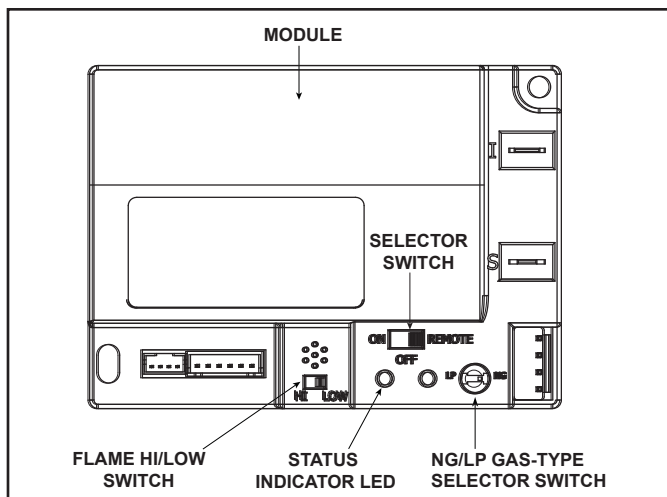

Figure 3.7 Control Module
1. The control module has an ON/OFF/REMOTE selector switch that must be set. See Figure 3.7.
2. If using a wired wall switch with the module in REMOTE mode, the flame output can be adjusted with the HI/LO selector switch on the module. See Figure 3.7. Note that the flame HI/LO selector switch will become inactive once an optional remote control (RC200/RC300) is programmed to the control module. Note that the control module will always ignite the fireplace on HI and remain so for the initial 10 seconds of operation. If the HI/LO is switched to the LO position, the flame output will automatically drop to the lowest setting after the flame has been established for 10 sec. After this 10 second period, the flame can be adjusted from HI to LO with the switch.
- Locate the module selector switch. (See Figure 3.7).
- Wait five (5) minutes to allow possible accumulated gas to clear.